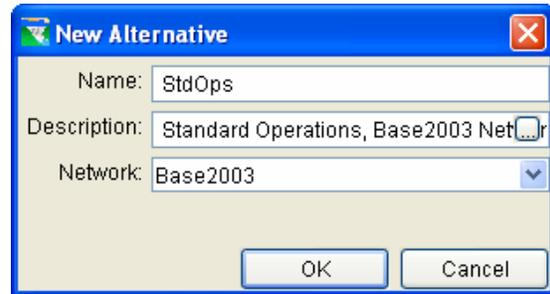

Figure 13.2 New Alternative
1. From the **Alternative** menu of the Alternative Editor, select **New**. The **New Alternative** dialog box will open (Figure 13.2).